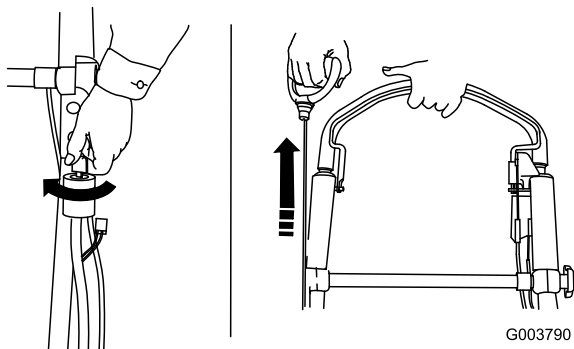

Figure 25
4. Hold the blade control bar against the handle and immediately start the engine using either the ignition key or the recoil starter (Figure 25).